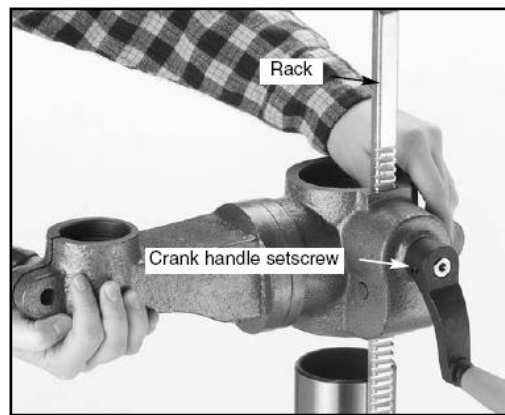

Figure 4
2. Insert the pinion gear into the hole on the side of the table support bracket from the inside, starting with the pinion shaft as shown in **Figure 3**. Align setscrew in crank handle with flat on pinion gear shaft and secure using the 3mm Allen® wrench provided as shown in **Figure 4**.
3. Examine the rack and note that the gear teeth extend farther on one end than the other. The end of the rack where the gear teeth are closest to the end should be positioned down. Insert the rack into the table support bracket and align it with the pocket as shown in **Figure 4**. The gear teeth on the rack must also face out.
4. Slide the table support bracket onto the column while holding the rack in place. Allow the bracket to go down until the bottom of the rack contacts the shoulder on the column support as shown in **Figure 4**. Secure the table support bracket with the lock handle.